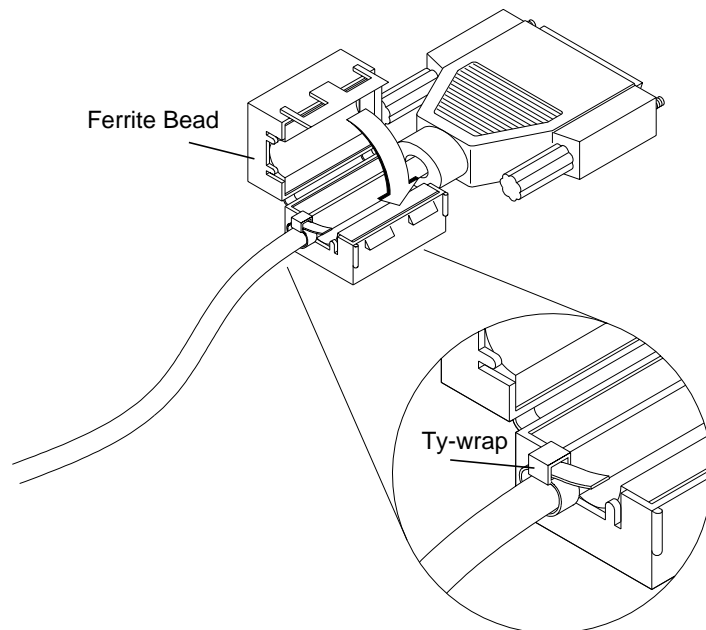

Figure 15 Attaching Ferrite Bead to Cable
- 23** When connecting a cable to a PMC card connector, if the cable you are using does not already have a ferrite bead attached, you need to add a ferrite bead included in your kit. Position the bead as close as possible to the PMC card connector. Use the Ty-wrap to hold the bead in place if it is loose on the cable. See Figure 15.